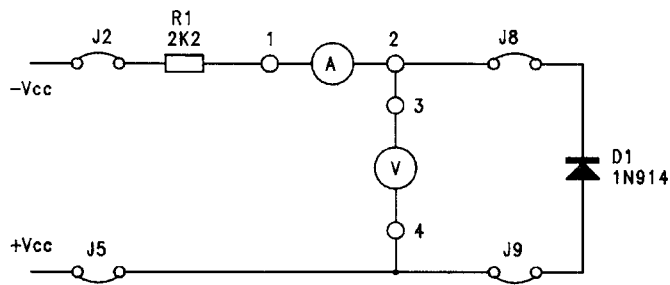

fig. B03.6
- Connect jumpers J2, J8, J9, J5 to produce the circuit of figure B03.6